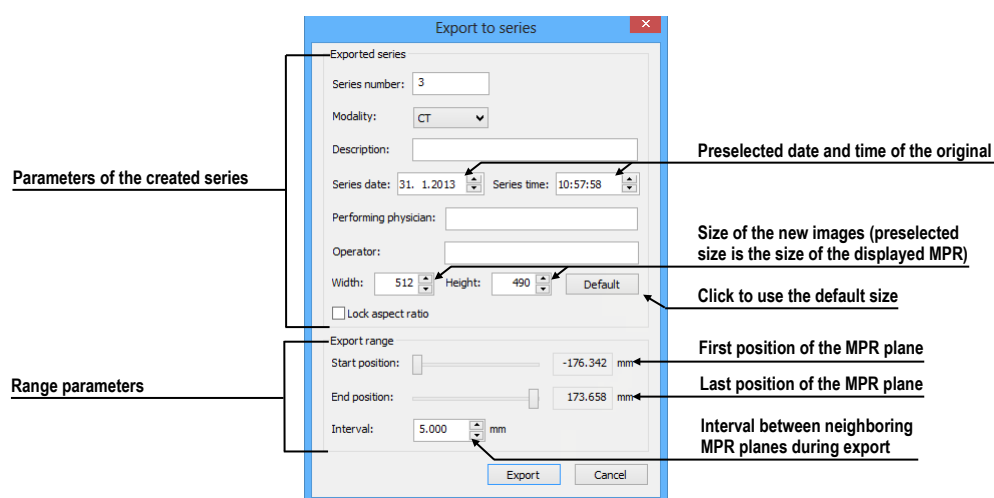

Figure 268 – Export to series dialog
3. The **Export to series** dialog will be displayed in which you can set the parameters for MPR export (see Figure 268).